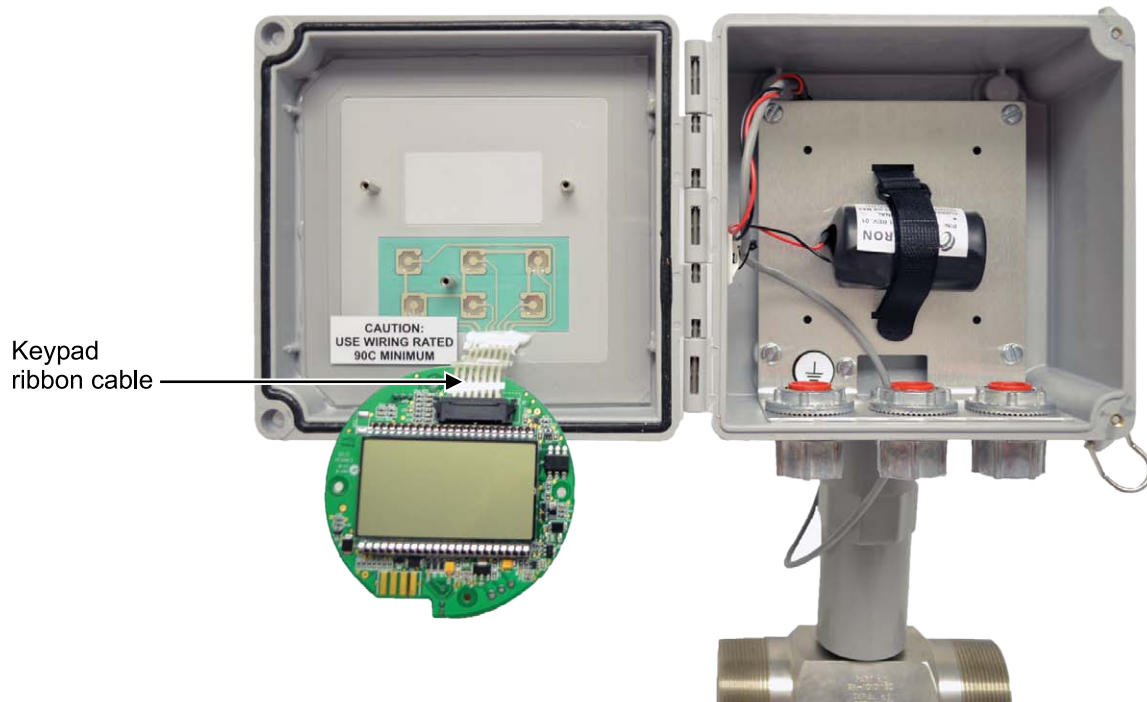

Figure 6.4—Keypad ribbon cable connection
6. Vertically flip the circuit board over to view the opposite side of the board where the LCD is mounted. The keypad ribbon cable will remain attached to the circuit board (Figure 6.4).